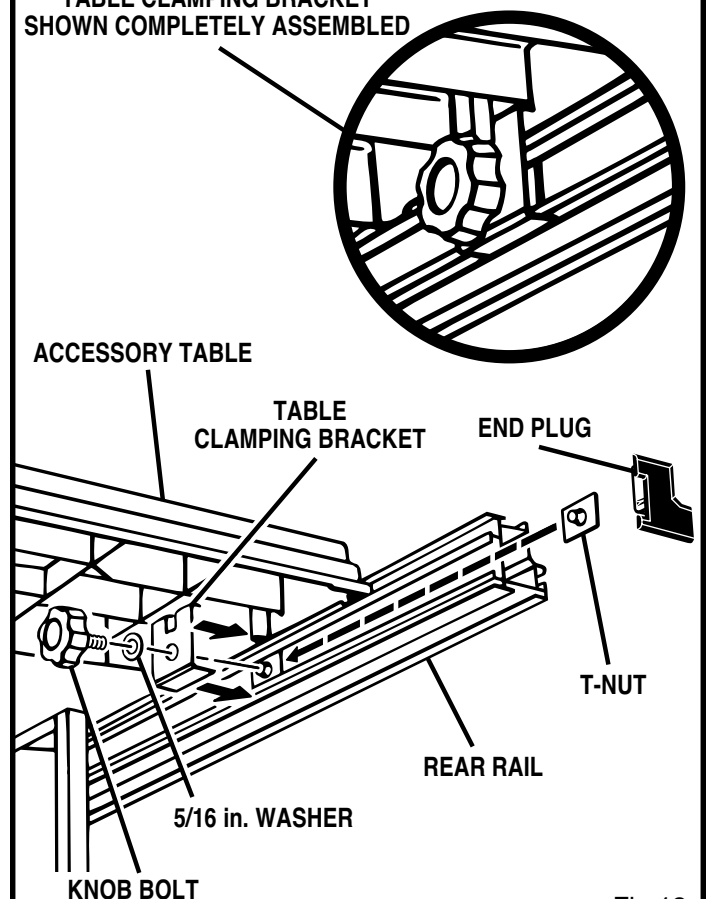

Fig.12
- Remove end plug from rear rail as shown in *Figure 12*.